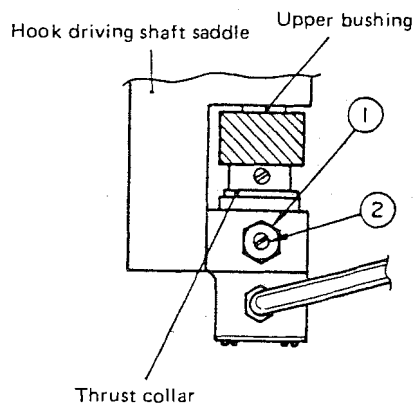

Fig. 24
A maximal amount of oil is fed to the hook when oil adjusting screw ② (Fig. 24) is fully tightened.
1. Loosen oil adjusting screw locknut ①.
2. Turn oil adjusting screw ② for an optimum oil amount and tighten locknut ①.
**(Caution) Don't tighten locknut ① too much, or it may break the thread of oil adjusting screw ②.**